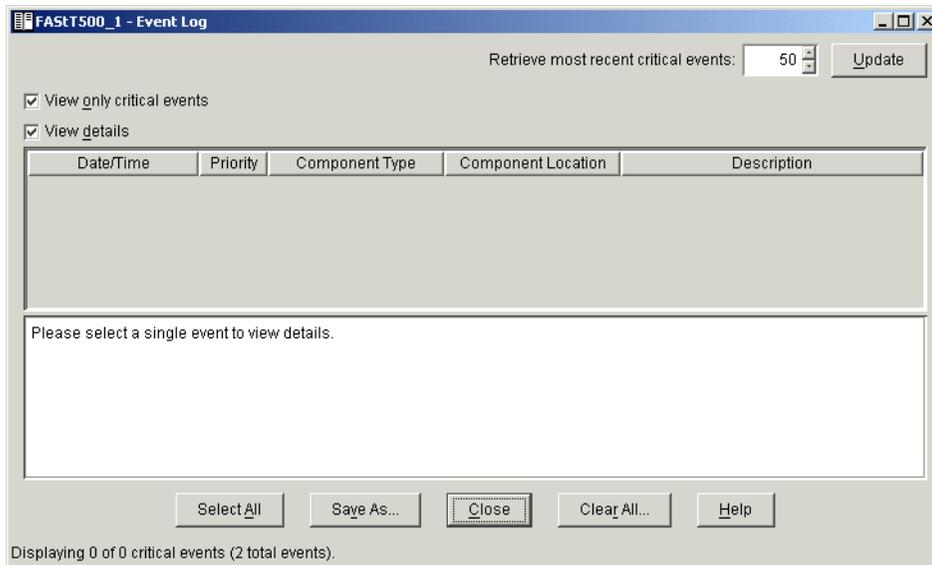

Figure 6-7 Event Log window
2. The FAStT500_1 - Event Log window is displayed, as shown in Figure 6-7: